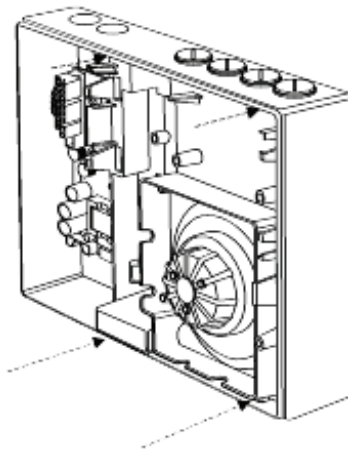

Figure 6: Removing the VLP or VLS chassis
7. Remove the chassis, holding the chassis by the aspirator assembly. Release the two lower locking tabs by lifting the chassis upward and pulling outward. Use a screwdriver to assist with tab release if necessary. Refer to Figure 6 below.